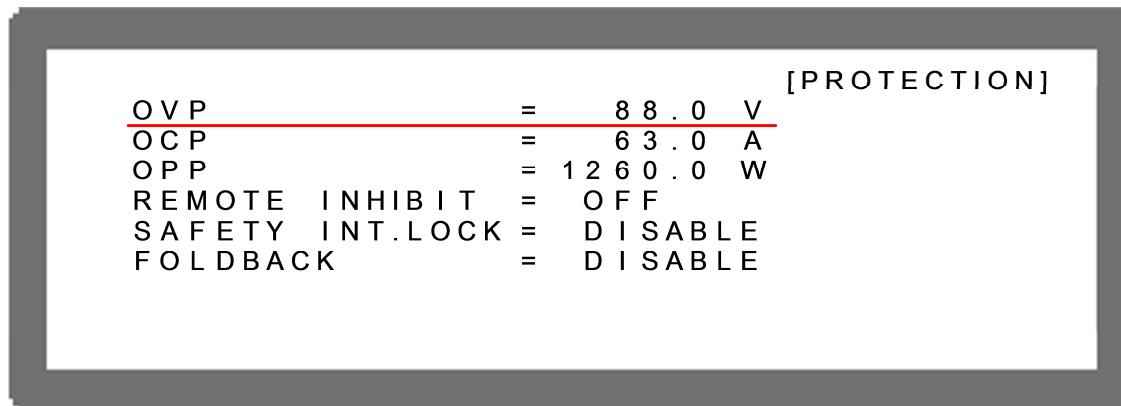

Figure 3-73
- Use the “” keys to move the cursor to the column to be set as shown in Figure 3-73.